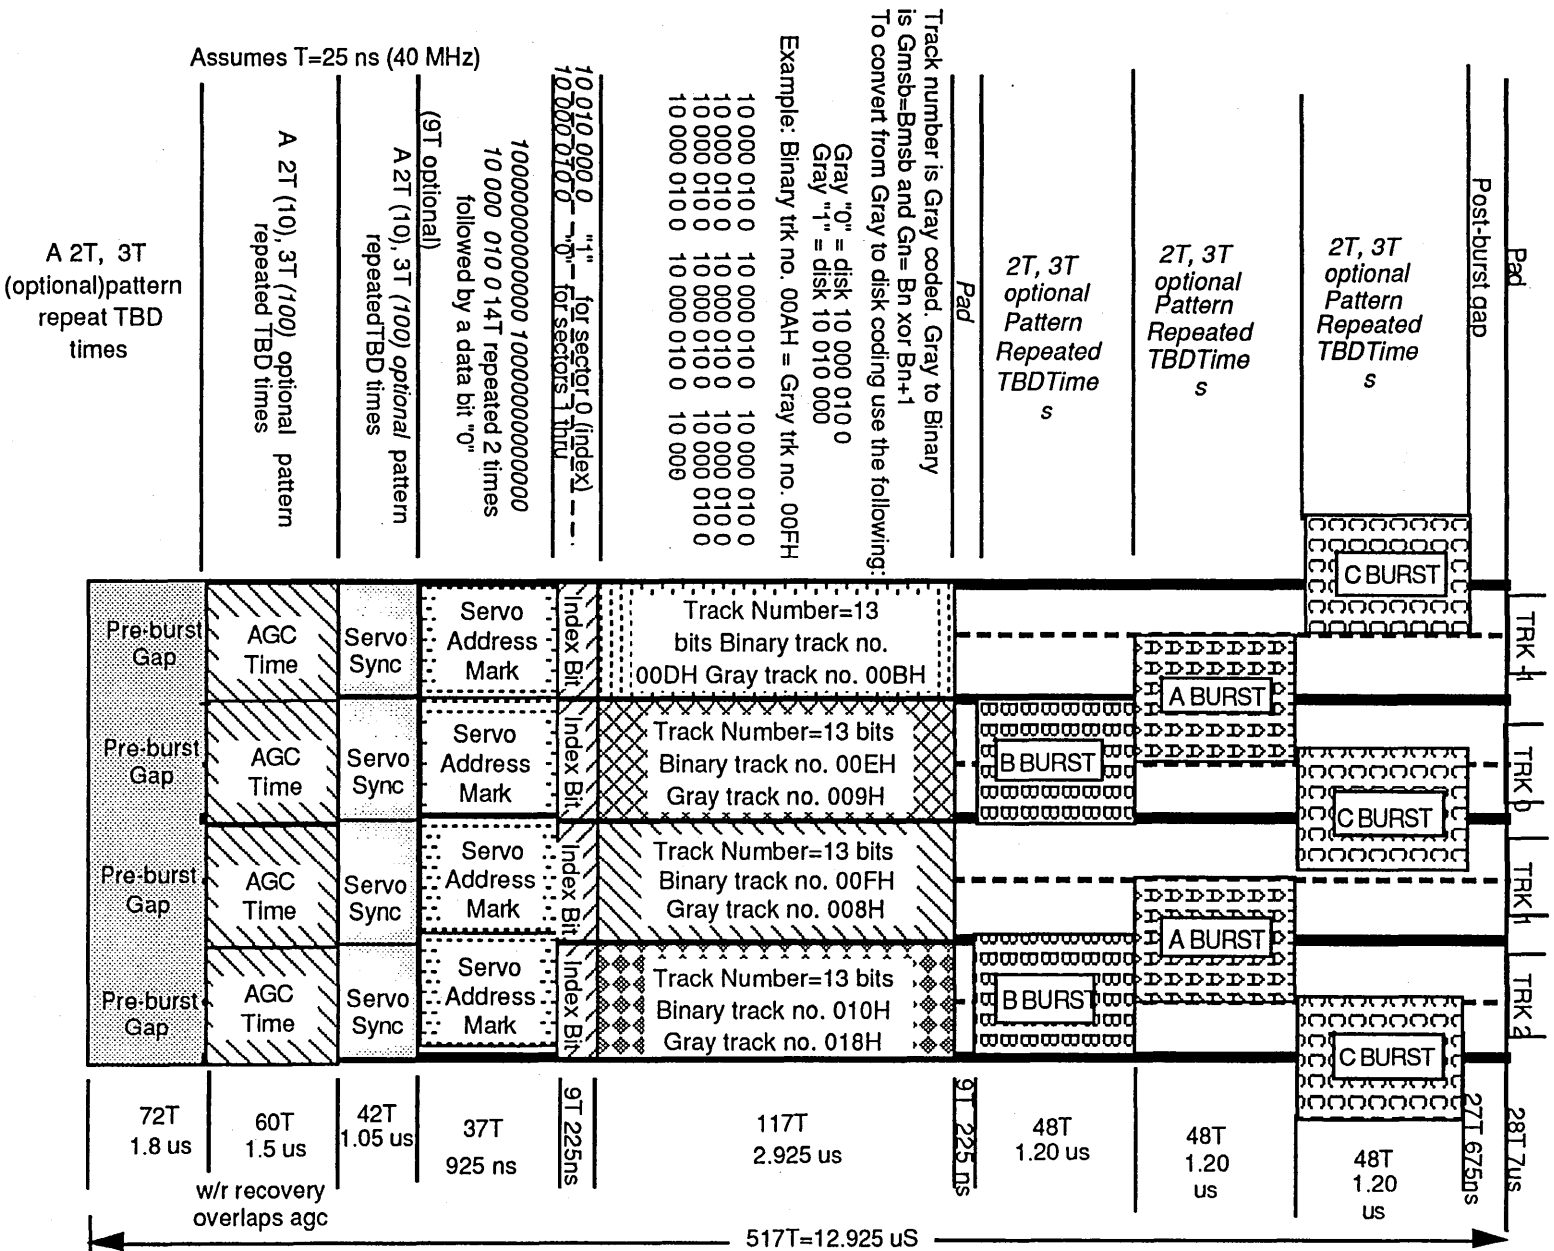

Figure 8-1. Servo Wedge Format
Figure 8-1 shows Vortex servo wedge format. Every wedge consists of four separate fields: (1) Automatic Gain Control (AGC)/Sync field, (2) Servo Address Mark (SAM) field, (3) Track Number, and (4) Burst area. Since a Phase Lock Loop (PLL) is not used in the servo wedge area, time discrimination is used. Timing for all four fields is generated from the same crystal reference. This clock has a period of 25 nanoseconds, and will be referred to as T.